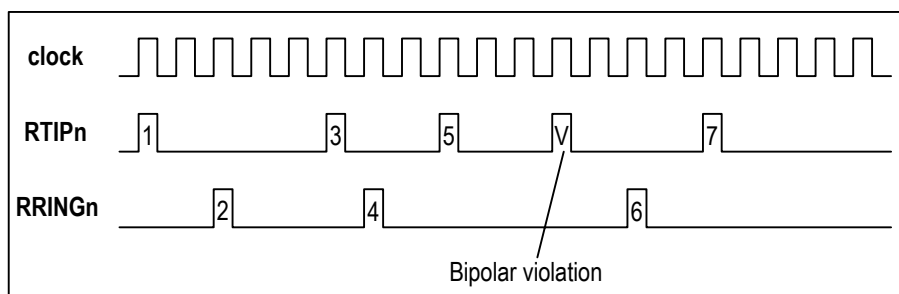

Figure 8. AMI Bipolar Violation Error
1. Bipolar Violation (BPV) Error: When AMI line code rule is used, the BPV error will be detected if two consecutive pulses are received with the same polarity (refer to Figure 8). The event of the Bipolar Violation (BPV) Error is forwarded to the Performance Monitor.
2. B8ZS Code Violation (CV) Error: When B8ZS line code rule is used, a CV error is detected when the received code does not match the standard B8ZS line code pattern (except the Excessive Zero error).